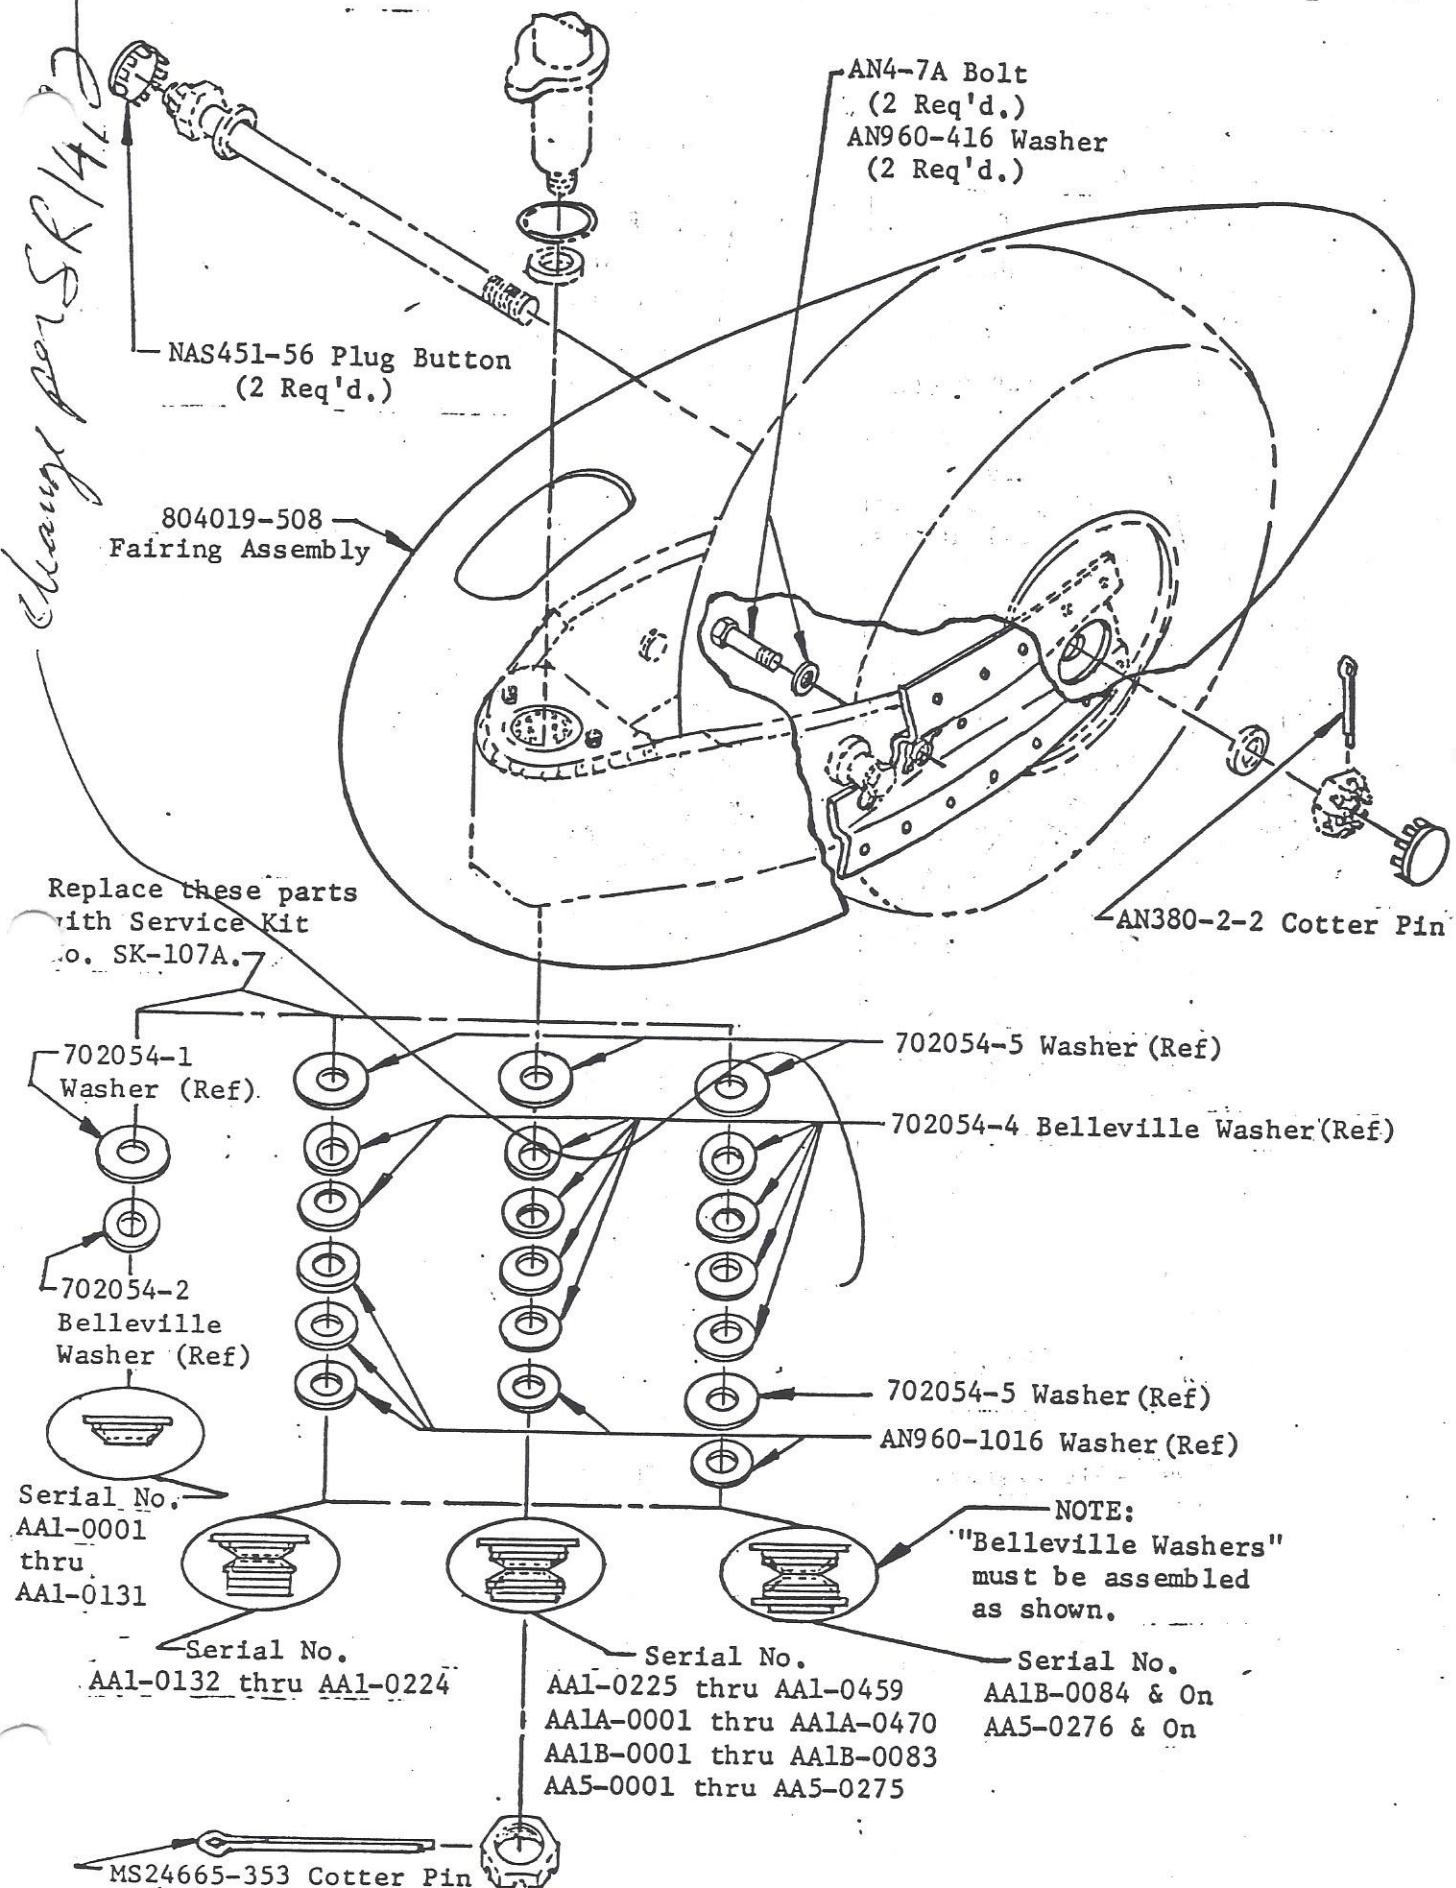

FIGURE 2. NOSE WHEEL FAIRING INSTALLATION
PART II. NOSE GEAR (FIGURE 2)
5. Apply general purposes grease per MIL-G-7711 or equivalent to the bearing surfaces and reassemble the nose fork assembly to the strut, being sure thrust washer is in place. Install the flat washers, Belleville washers and nut, as shown in Figure 2. Tighten the nut to provide a 10-13 lb. drag (measured at the axle centerline) when the fork is rotated. Install the MS24665-353 cotter pin.